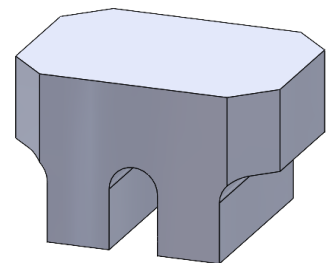

Figure B2:
7. Place the Narrow Interlocker Spacer (Figure B2) flush at the top of the interlocker in between the top rail and interlocker.